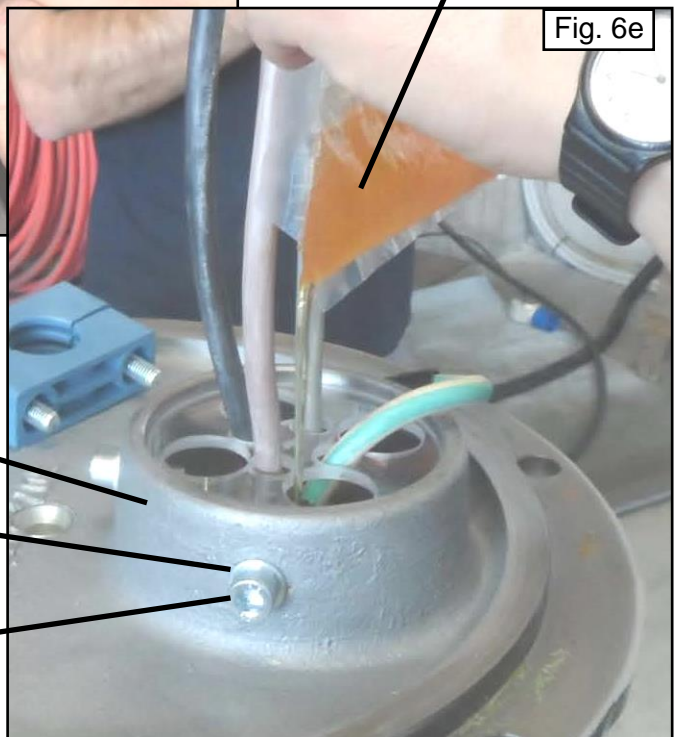

Fig. 6e
- Screw in the 3 (three) bolts **3A** inside the resin basin and fix the yellow/green ground wire to one of them provided screw (**Fig.6e, pg.9**).
- Fill completely with the epoxy resin **95B** the resin basin through the external holes of the spacer **3E** (**Fig.6e**) (top up little by little to avoid the epoxy resin has a crack during its hardening).